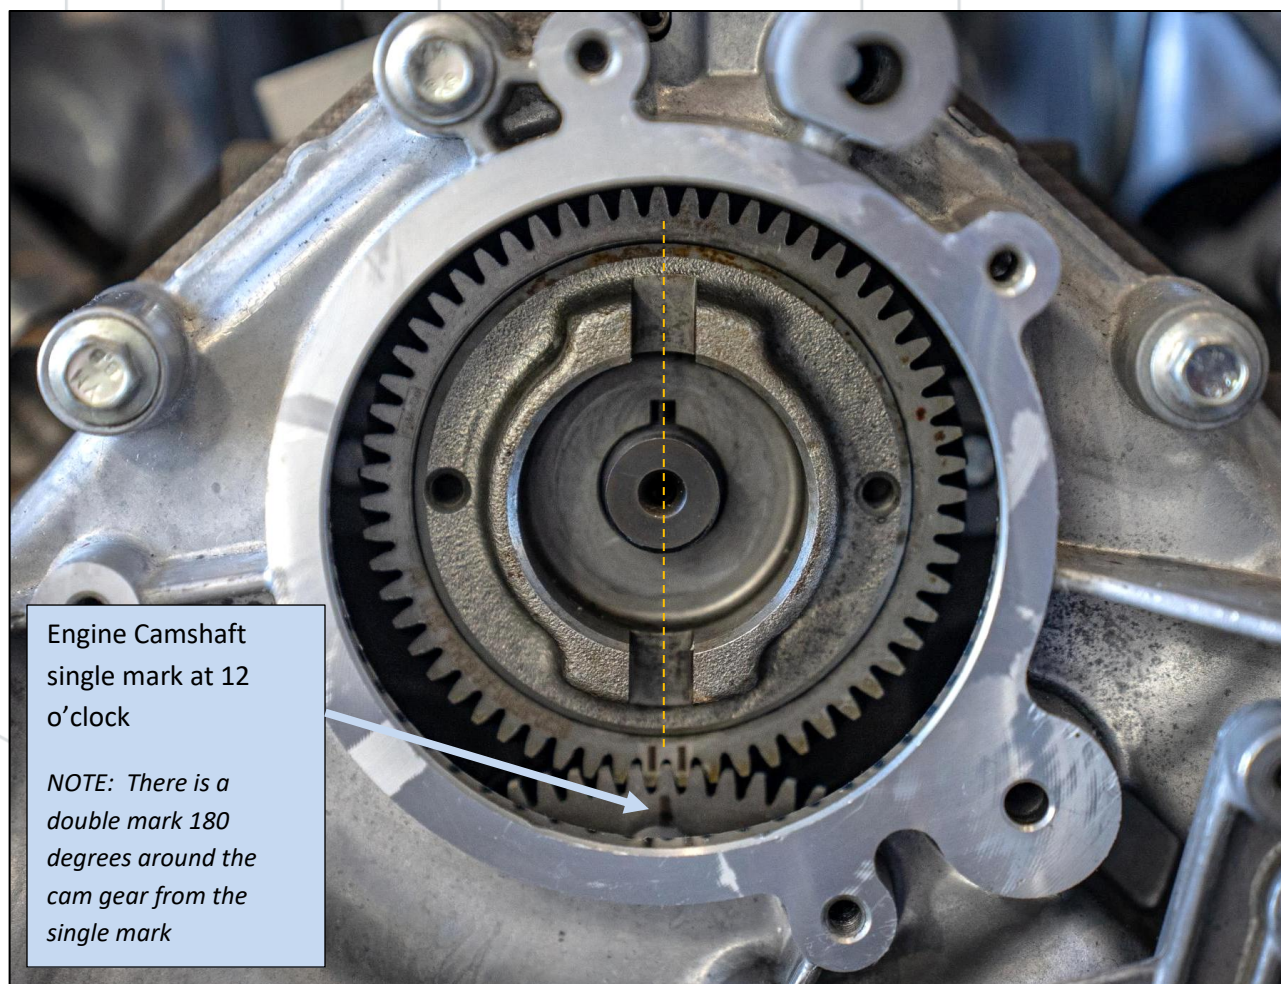

Figure 20: Rotate engine to TDC – Single Mark on the Engine Camshaft at 12 o'clock
33. Fuel Pump Timing: Using an 18mm 12-point socket on the damper bolts, turn the crankshaft clockwise to roll the engine over until the single mark on the camshaft gear is facing upward as shown (Figure 20).